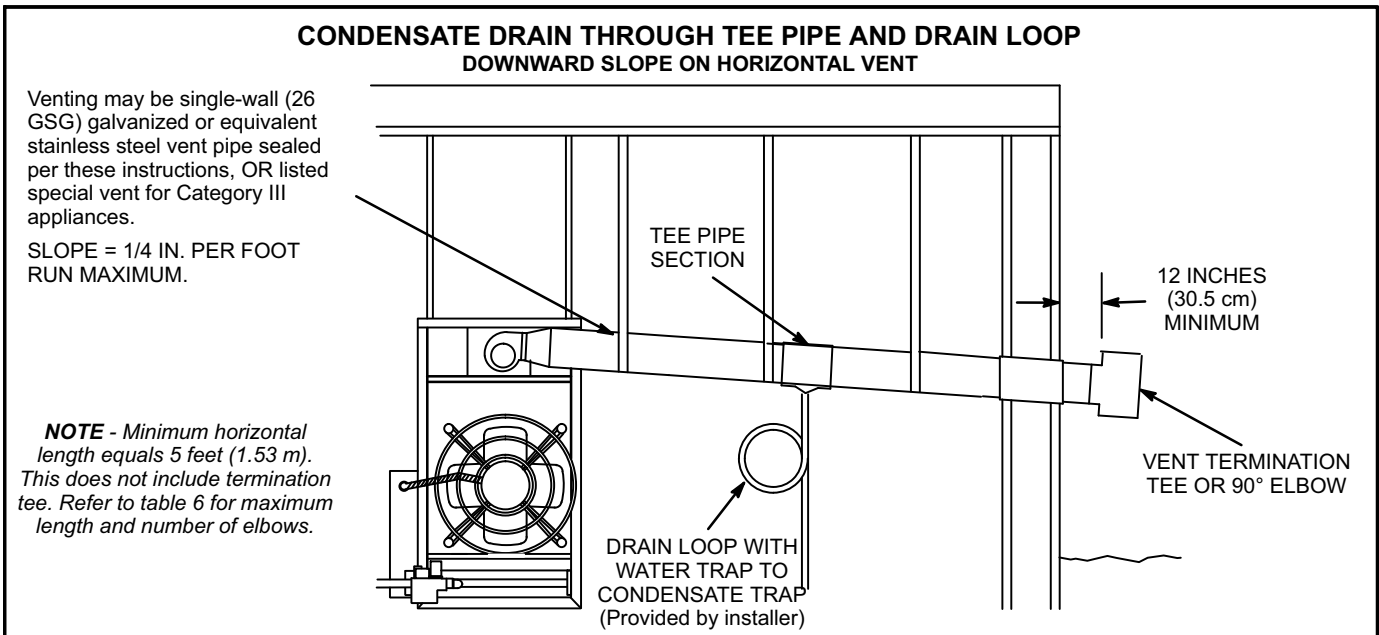
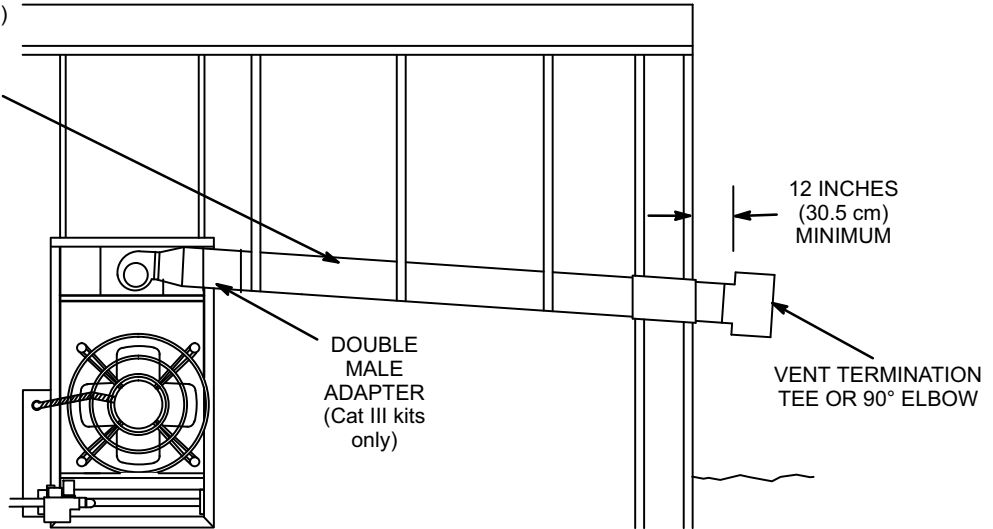

FIGURE 4
FIGURE 5
- 12 - Select a wall termination point that will maintain 1/4" rise per foot slope of horizontal run of vent pipe. In areas where authorities having jurisdiction permit, a downward slope of maximum 1/4" per foot is also acceptable. Condensate drainage can be collected in a tee pipe section (figure 4) with drain loop similar to one used for upward slope vent, or allowed to drip through the vent termination, if permitted by authorities (figure 5).